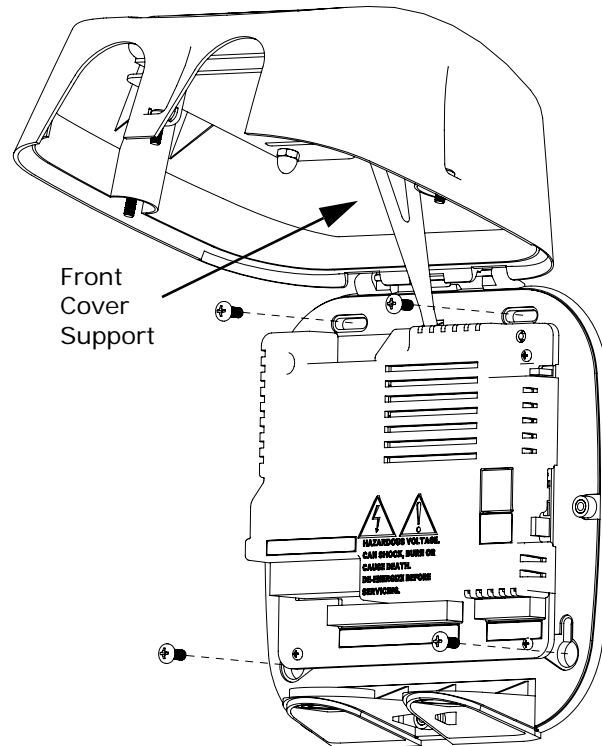

Figure 3.1: Shark Submeter with Cover Open: see **WARNING!** on previous page
2. **With the submeter power off**, open the top of the submeter. Use the front cover support to keep the cover open as you perform the installation (see Figure 3.1).